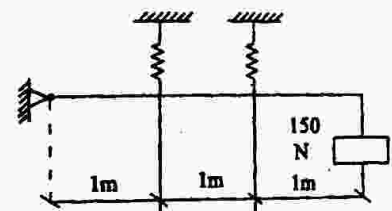

Fig. 3
7. (a) Show that a hollow circular shaft whose inner diameter is half the outer diameter has a torsional strength equal to $15/16$ of that of a solid shaft of the same outside diameter. (6)
(b) A rigid bar, hinged at one end, is supported by two identical springs as shown in fig. 3. Each spring consists of 20 turns of 6 mm wire having a mean diameter of 125 mm. Compute the maximum stress in the spring. (7)